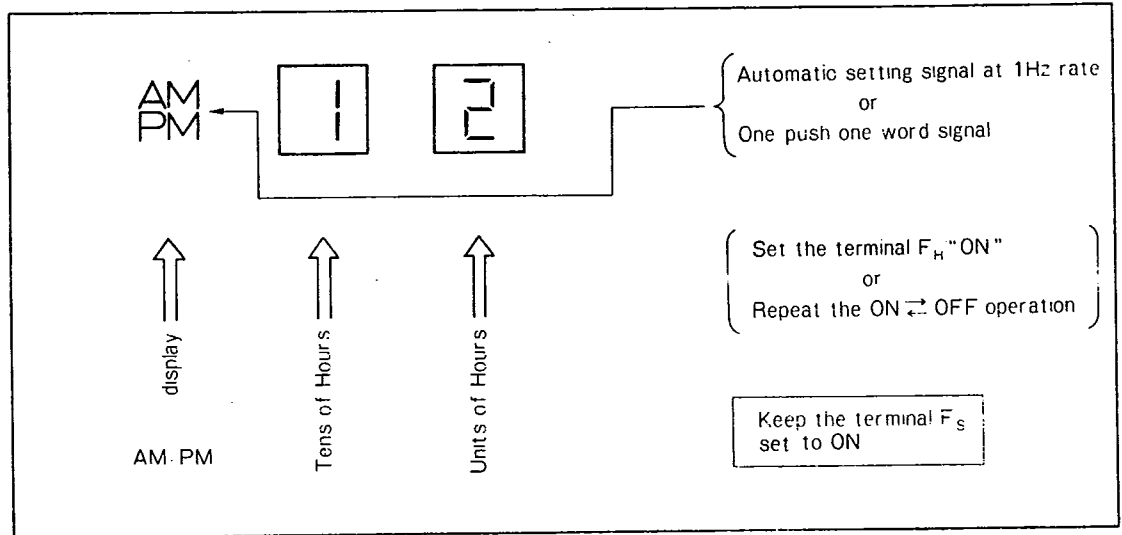

Fig.6
- ② If you want to set hours faster for 12-hour indication, proceed with the following methods. First, set the terminal F_S on and the terminal F_H on. Then, the AM/PM display can be set automatically at 1 pps. In other words, is shifted to PM and vice versa automatically. If you are required to set AM/PM display faster than above, repeat the ON-OFF operation of the F_M terminal set to ON. Then, AM/PM display can be set at the speed of hand-operating. Refer to the Fig. 6.